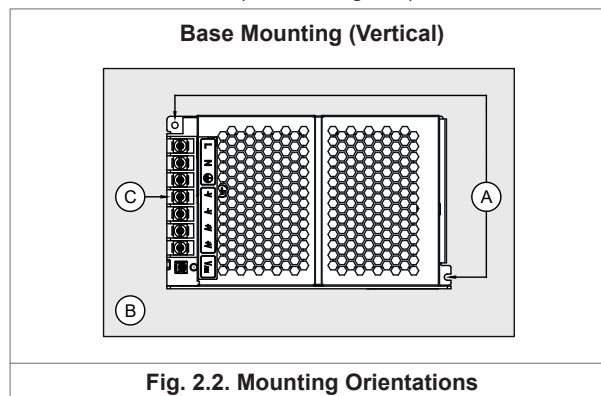

Fig. 2.2. Mounting Orientations
► **PMH-100WCL□□, PMH-100WCM□□, PMH-150WCL□□** (Refer to Fig. 2.2)